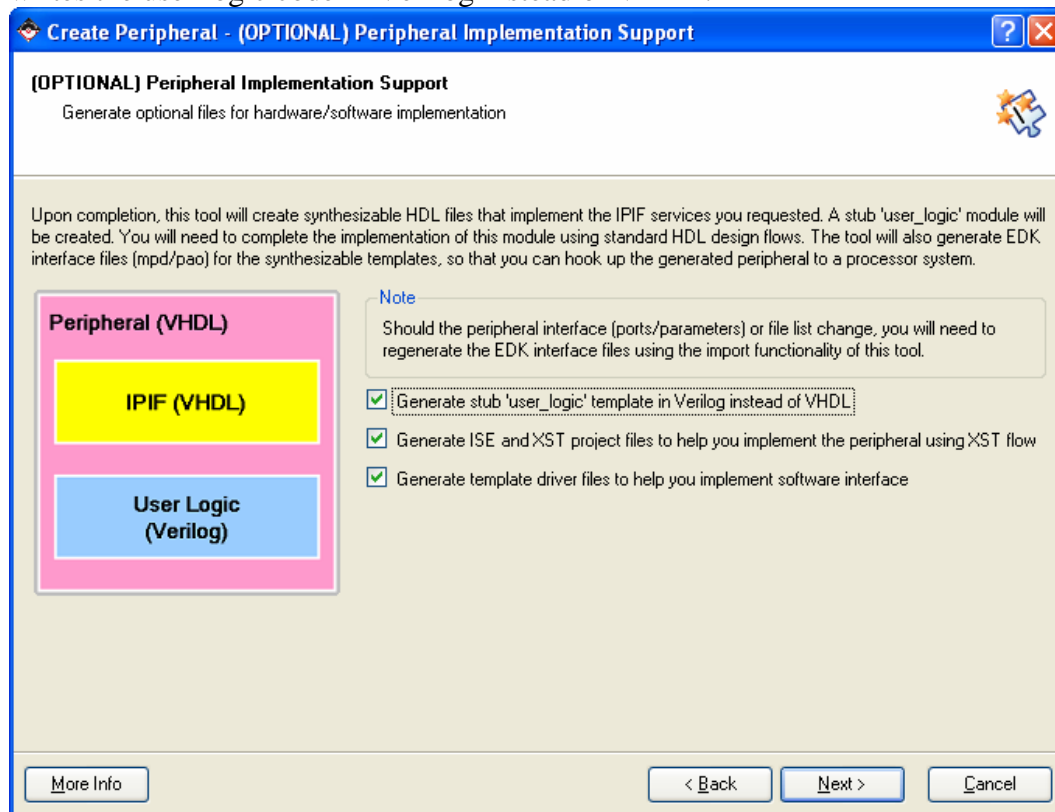

Figure 1: User logic created in Verilog instead of VHDL
- On the next screen, select Generate user logic in Verilog instead of VHDL (Figure 1). This may generate a warning – you can ignore that. If you are comfortable using VHDL, you may leave this option and proceed to the next screen. This option simply writes the user logic code in Verilog instead of VHDL.